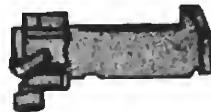

Figure 27.
4. Carefully clean the bolt and the bolt face with powder solvent. Dry and lubricate lightly. (see Figure 27).